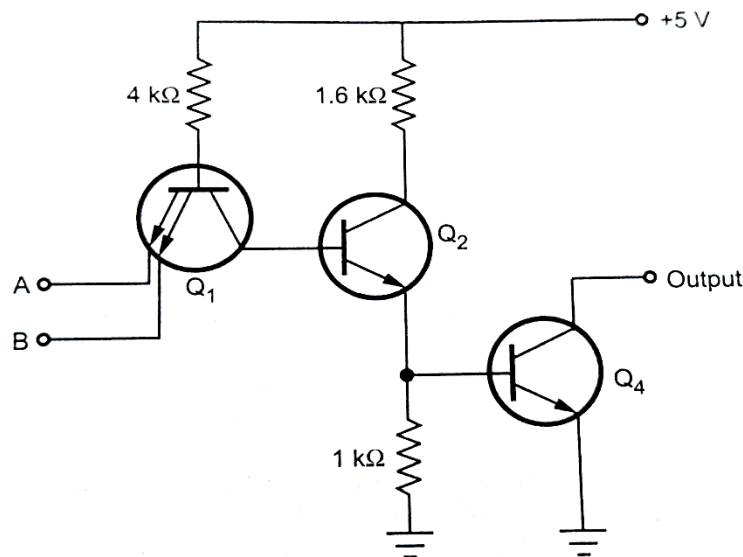

Figure 1.15: Open collector 2-input TTL NAND gate
- Figure 1.15 shows a 2-input NAND gate with an open-collector output eliminates the pull-up transistor Q_3 , D_1 and R_4 .